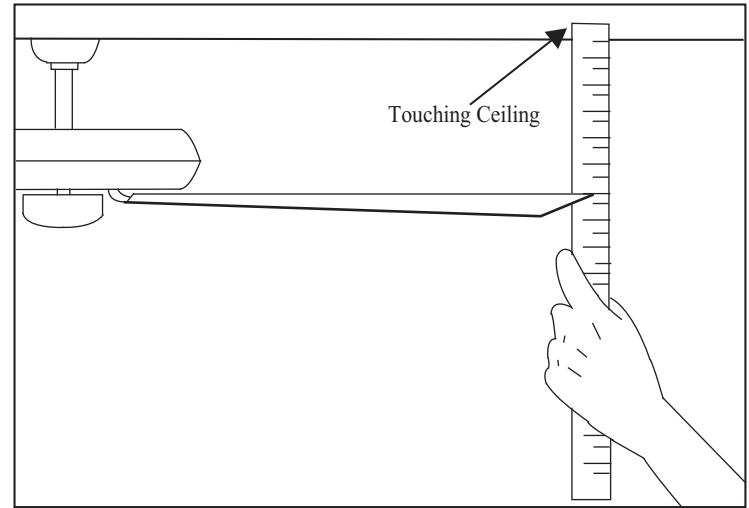

Figure 18
- Select a point on the ceiling above the tip of one of the blades, then select any fan blade and measure from the center of the selected blade to the point on the ceiling (as shown in Figure 18). Rotate the fan until the next blade is positioned and repeat the measurement using the same point from the ceiling for every blade. Measurement deviations should be within 1/8”.